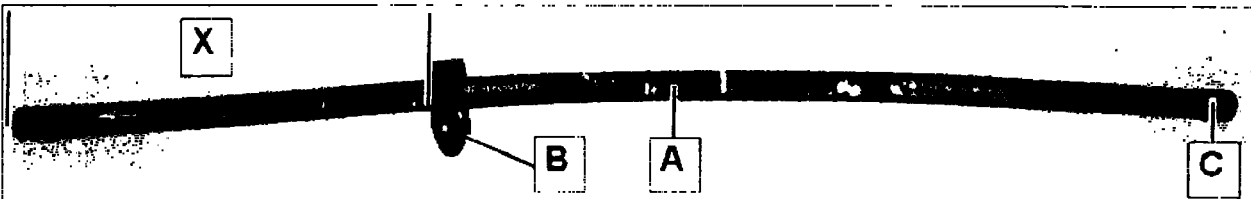

Figure 9
- Verify that the dimension X (Figure 9) on the **new** SBC suction hose (A) equals 20 cm. Adjust (if necessary) by repositioning the mounting clip (B) on the SBC suction hose (A).
- Place new hose clamp onto unmarked side of suction hose (C, Figure 9).
- Connect the unmarked end of the suction hose (C, Figure 9) onto the suction line (A, Figure 10) and secure hose with a **new** hose clamp (arrow, Figure 10).